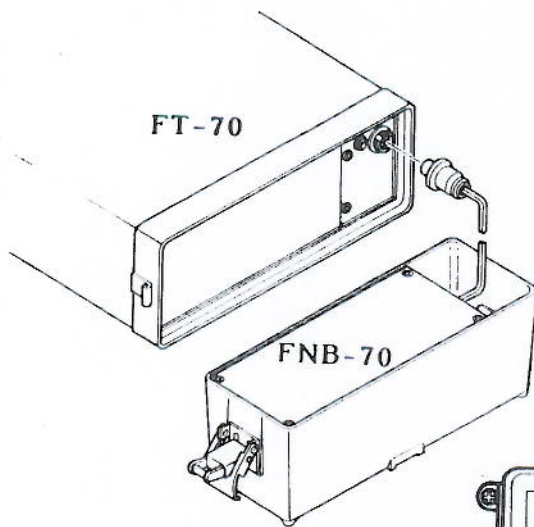

Figure 4
- (1) Disconnect the coaxial jumper cable from the ANTENNA jack on the transceiver, and remove the microphone or handset, if connected. Loosen the encircling strap on the case.
- (2) Using the chrome side handles, carefully lift the transceiver from the case and place it upright on a flat surface (battery pack at the bottom).
- (3) Unlatch the battery pack on both sides of the transceiver. Using care to avoid pulling on the power cables, lift the transceiver slightly and place it flat next to the battery pack (Figure 4). The interconnecting wires allow only a few inches of separation. Unscrew the battery cable at the rear of the transceiver.
- (4) If the NC-70 is not already connected to the AC mains, make certain that the voltage label on the back of the NC-70 matches the local AC mains voltage, and plug it in at this time.
- (5) Connect the battery cable plug to the charging jack on the front of the NC-70 Charger, and then switch on the Charger. The green TRICKLE lamp will light to indicate proper connection. Press the NORMAL or QUICK button to select the charging rate: